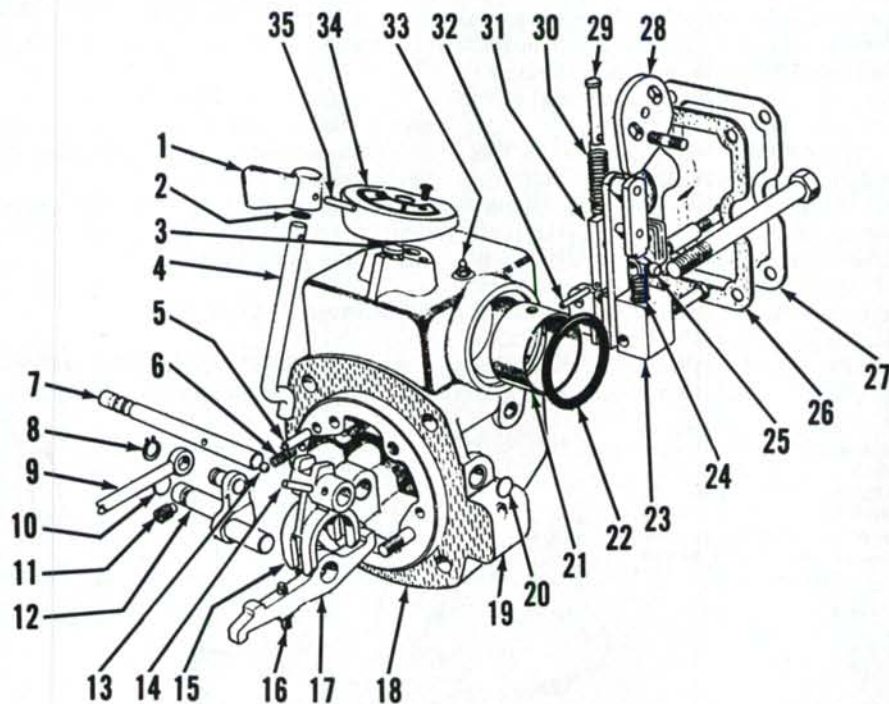

Fig. 274—Exploded view of selector dial mechanism and control used on some models.
hand rockshaft bracket. Remove guide bracket (23—Fig. 274), push rods (31) and cam (28), then unbolt and remove control valve assembly from rockshaft bracket.